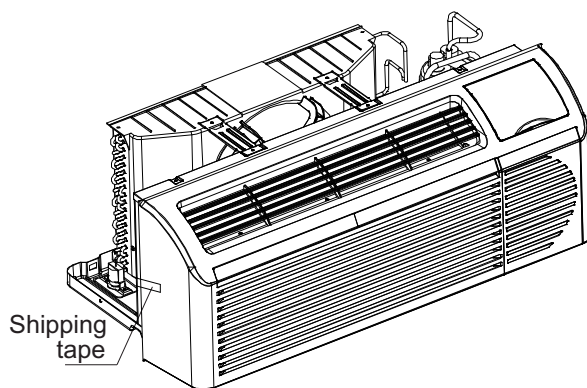

Fig. 9 - Shipping Tape Location.
1. Carefully remove shipping tape from the front panel and vent door. See Fig. 9.